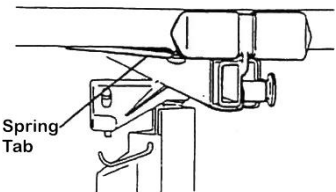

Figure 8
2. Press each cross-arm forward into the socket until the spring tab on the bottom of the cross-arm snaps into place. (Figure 8).